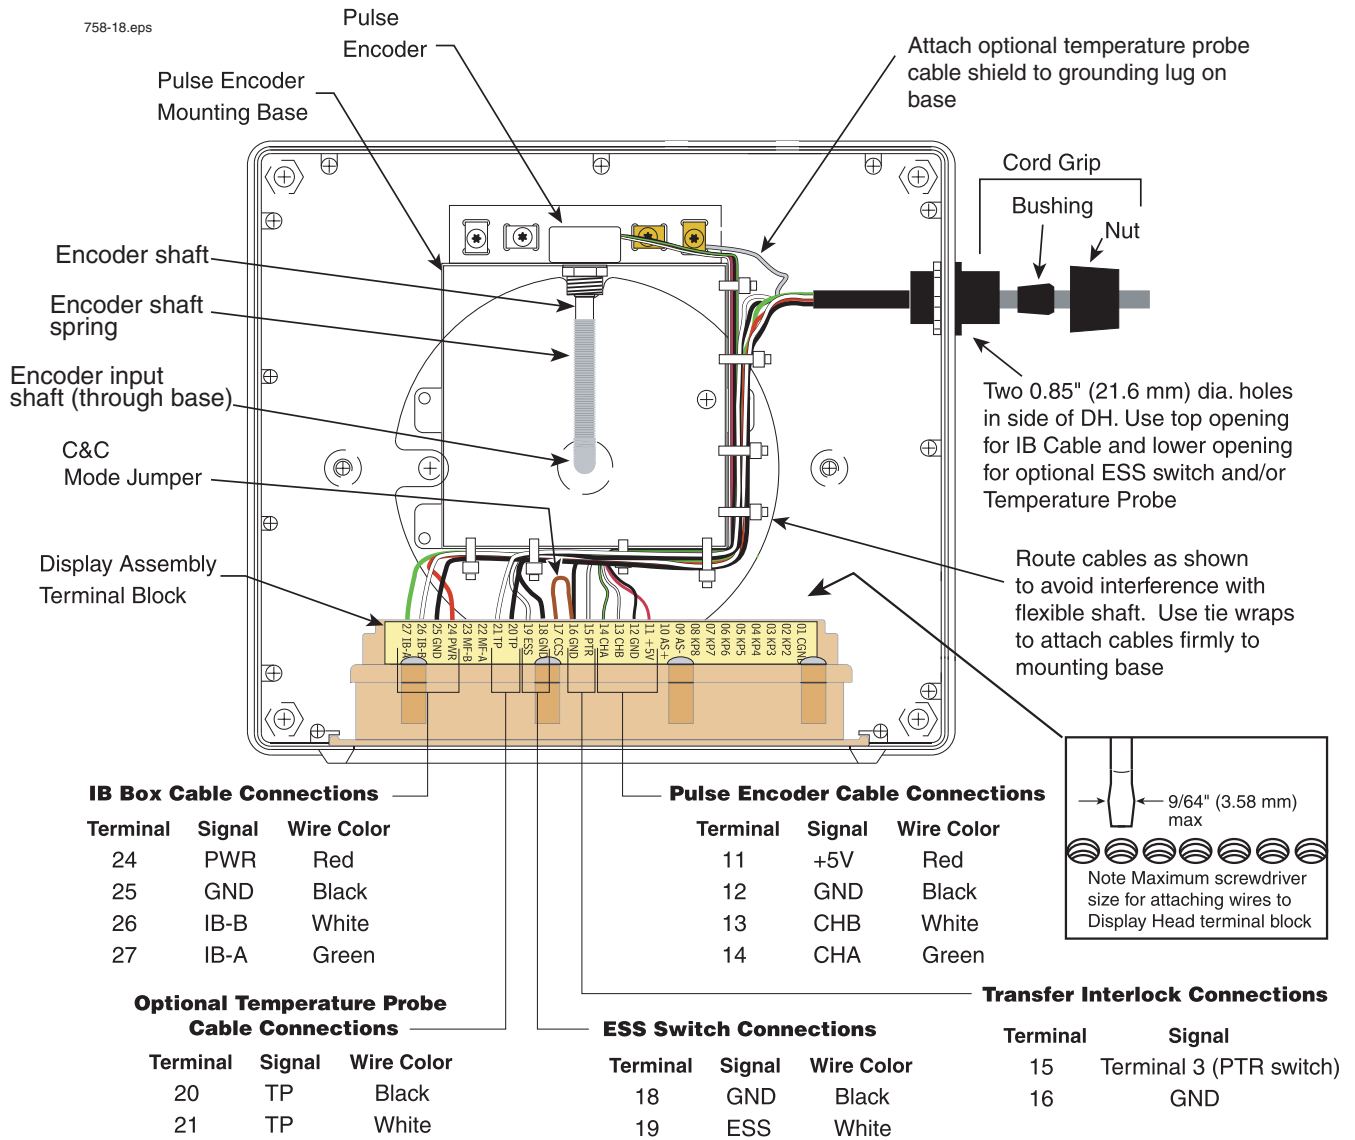

Figure 20. Display Head Cable Connections
10. Look at the base of the Display Head. Locate the Encoder Drive Spring (see Figure 20). Pull/slide the encoder spring off of the encoder shaft.
2. Slide the cord grip nut and then the bushing over the IB cable leads. Pull enough cable through so that the leads reach the terminal block on the Display Assembly and can be tie wrapped to the Pulse Encoder mounting base as shown in Figure 20. Slide the tapered end of the bushing into the cord grip, then screw on the cord grip nut and tighten securely.
3. Attach the IB cable to the Terminal Block as shown in Figure 20.
Encoder mounting base as shown in Figure 20. Slide the bushing into the cord grip and then screw the cord grip nut onto the cord grip and tighten securely.
5. Attach each wire (no polarity) of the 2-conductor Temperature Probe and/or ESS switch cable(s) as shown in Figure 20.
7. For Transfer Interlock applications, attach the 2-conductor cable from the switch as shown in Figure 20.
1. A C&C Mode wire jumper (see Figure 20) - configuration. To enter C&C mode, you remove one end of the jumper from its terminal, and you reconnect it when finished.